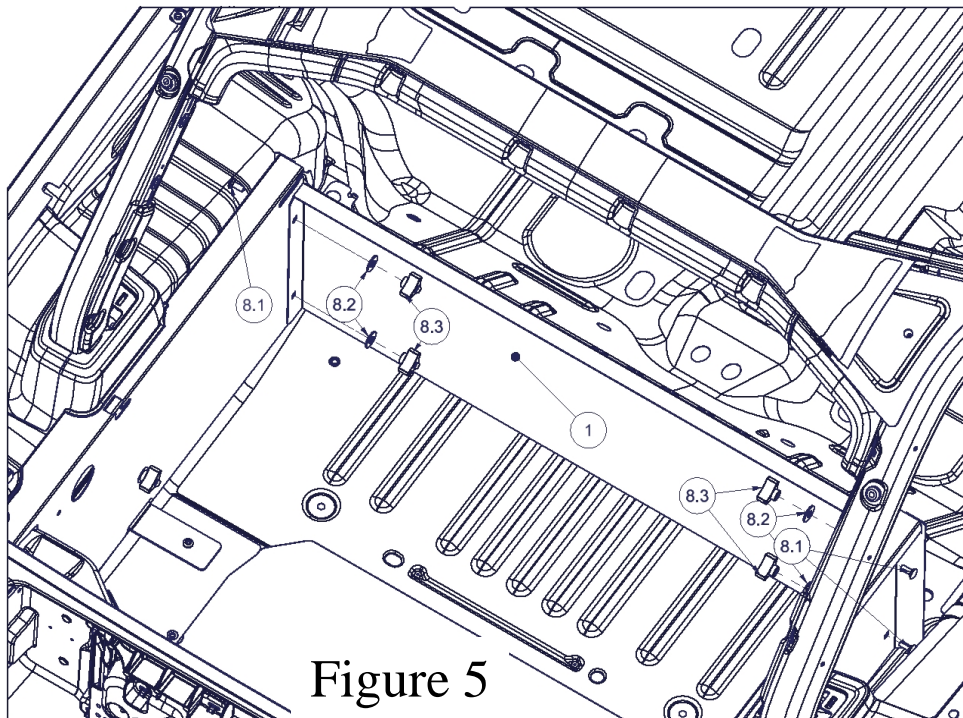

Figure 5
8. Install the #1 Front Panel to the #3 and #4 Side Panels using (4) #8.1 Carriage Bolts, (4) #8.2 Washers, and (4) #8.3 Knob Nuts, as shown in Figure 5.